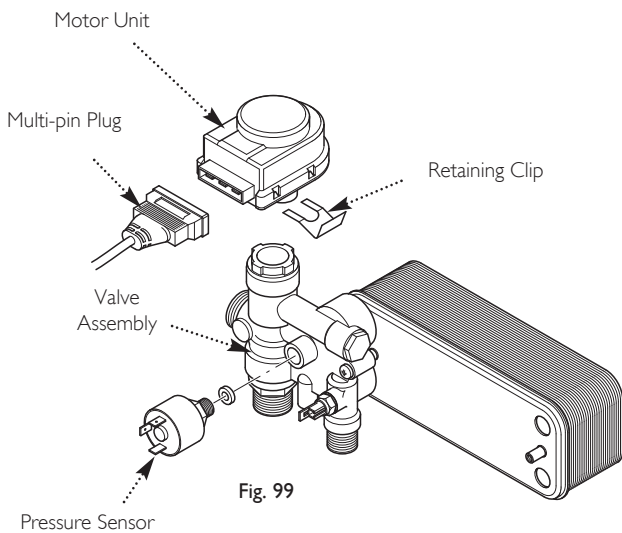

Fig. 99
14.21 Diverter Valve - Motor Unit & Assembly (Fig. 99)